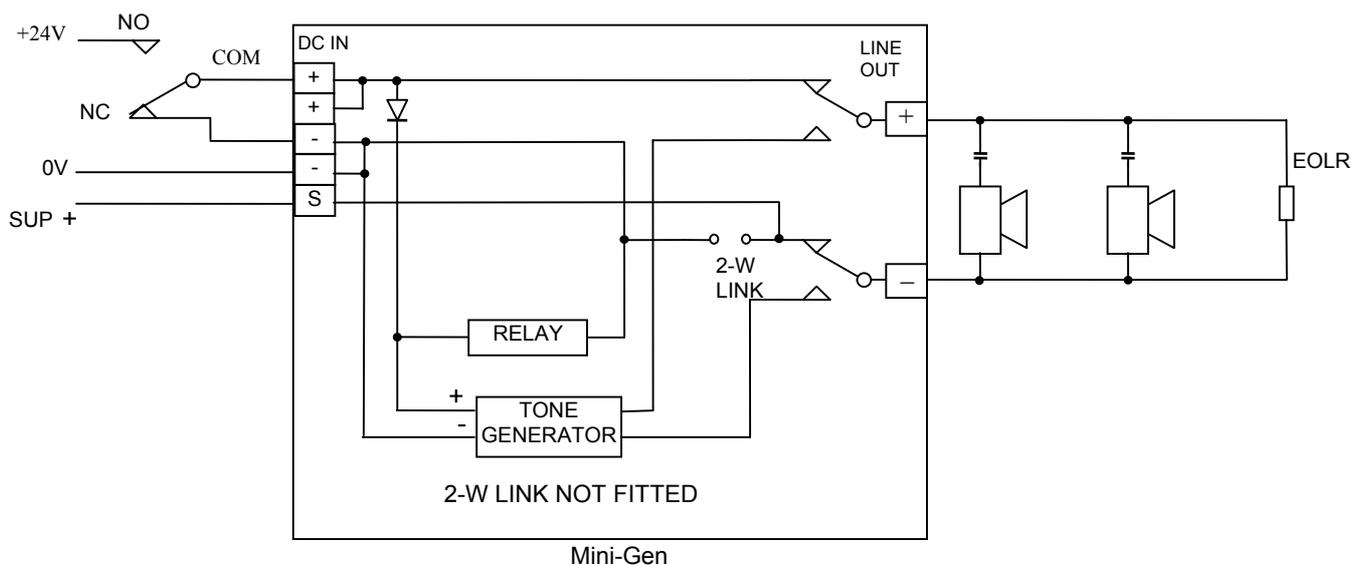

Fig 2
A single Mini-Gen can be driven by the single pole Ancil Relay. Connect the relay and Ancil supervision as per Fig 2.
Use one relay of a Relay Board and configure the corresponding IOR input for supervision. (Wiring is similar to Fig 2).
**Ancillary 1 or 2** relays can also be used, with the Supervision connected as per Fig 2.
Alternatively, the single pole of one relay can be used and connection made directly to the supervision input on the 3 way Supervised / Un-supervised (S/U) link. Refer to Fig 2. Remove the supervision jumper altogether, plug a single connector onto the pin furthest from the screw terminals and wire this to the SUP+ terminal of the Mini-Gen. Do not bridge the two 'S' pins on the 3 way link. (A suitable 3-way housing is supplied with two crimp terminals, but requires an appropriate crimp tool and 0.1 - 0.35sqmm wire. Fit the spare terminal to the other end to help hold it on).